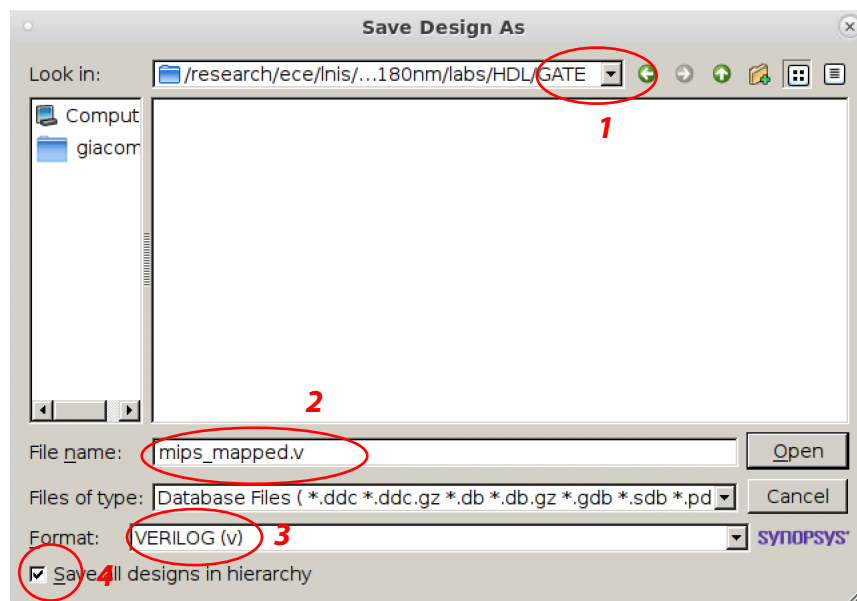

Figure 15: Exporting the verilog gate-level netlist
2. Select the parameters as in Fig. 15. Don't forget to select the appropriate format and the appropriate path.